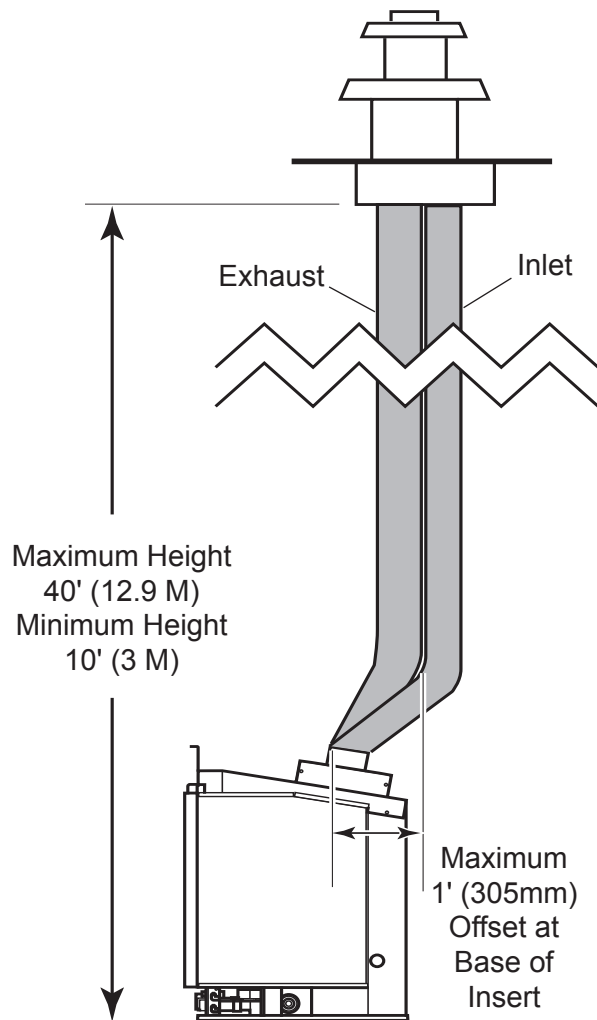

Figure 6 - Venting Unit
- Make sure the exhaust pipe on heater connects to exhaust portion of cap. Attach flex liners. See *Figure 6*.